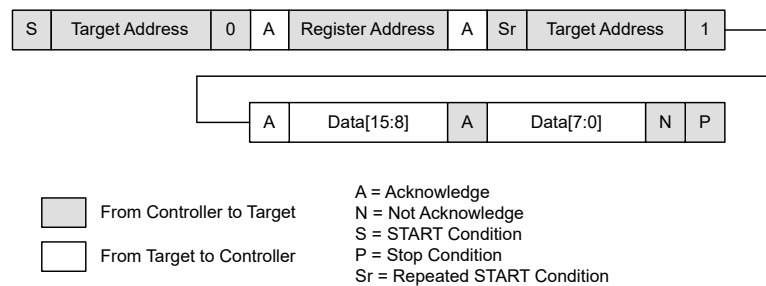

Figure 7-23. Read A Single Register
7.5.1.5.3 Reading a Single Register (Figure 7-23)
Figure 7-23 shows a diagram of this protocol. Steps for this protocol are: